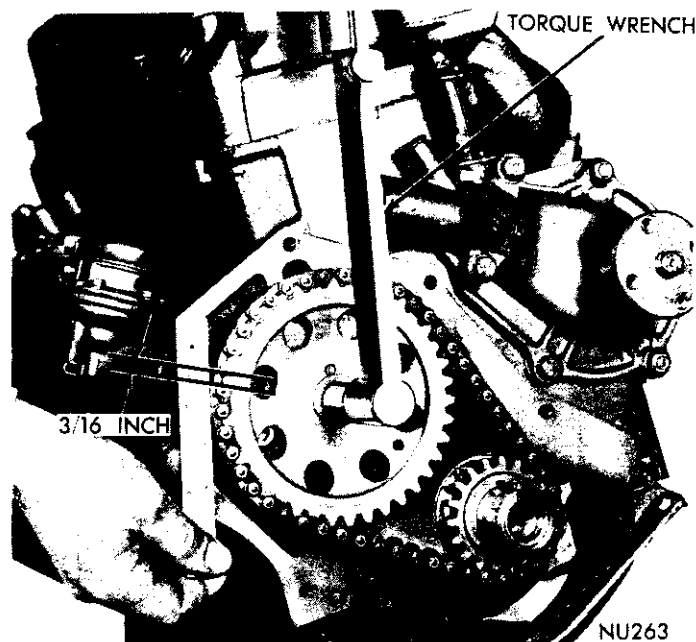

Fig. 21—Measuring Chain Stretch
(2) Place a torque wrench and socket over the camshaft sprocket lock bolt and apply torque in the direction of crankshaft rotation to take up slack; 30 foot-pounds (cylinder head installed) or 15 foot-pounds (cylinder head removed). With torque applied to the camshaft sprocket bolt, crankshaft should not be permitted to move. It may be necessary to block the crankshaft to prevent rotation.
(3) Holding a scale with dimensional reading even with the edge of a chain link, apply torque in the reverse direction 30 foot-pounds (cylinder head installed) or 15 foot-pounds (cylinder head removed) and note the amount of chain movement (Fig. 21).
(4) If chain movement exceeds 3/16 inch, install a new timing chain.
(5) If chain is satisfactory, slide the crankshaft oil slinger over the shaft and up against sprocket (flange away from sprocket).
(6) If chain is not satisfactory, remove camshaft